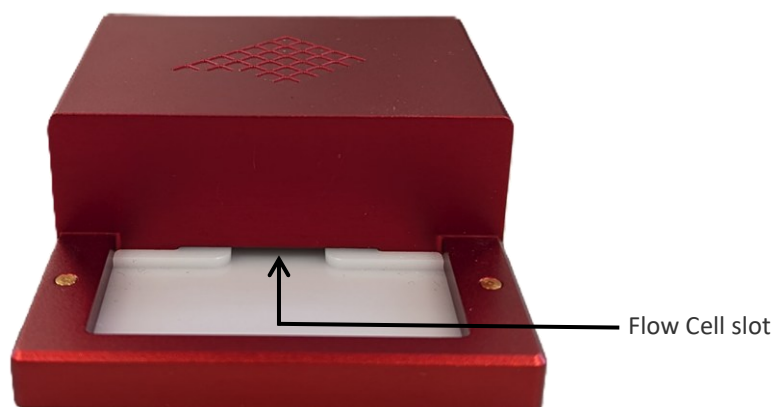

Figure 1 – Front view of the amplifier without the lid.
Before inserting a flow cell into the instrument, ensure that the white flow cell plastic slot (Figure 1) is completely dry. Liquid contamination may cause calibration errors, measurement instability, or permanent damage to the input electronics.
6. Insert the supplied 10 MΩ Model Cell into the flow-cell slot (see Figure 1). Ensure that the *Estimate Resistance* protocol is still running. Verify that the measured resistance is 10 MΩ ±30%.